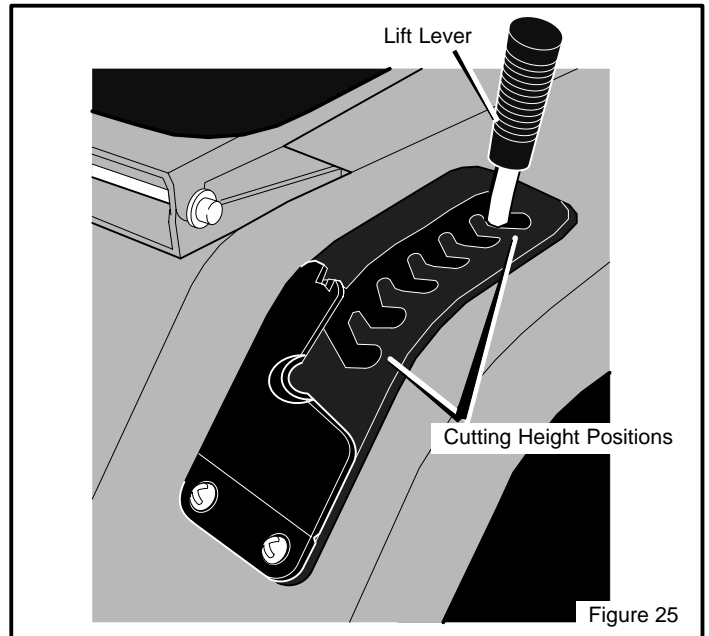

Figure 25
2. Mow a short distance on a flat level area to check the level of cut and the height of cut. Look at the **height of cut position number** on the **lift lever** (Figure 25).